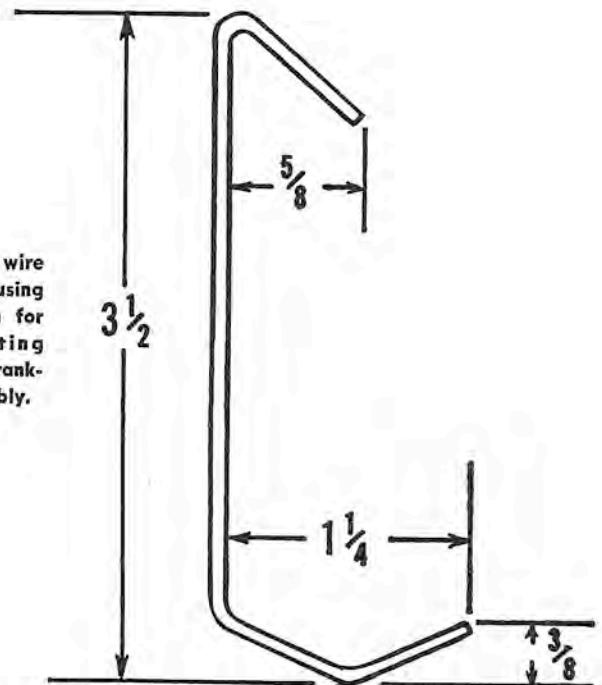

Fig. J105 — Four wire clips can be made using the pattern shown for holding the connecting rods away from crankshaft during assembly.
The crankshaft upper main bearing is a double roller bearing (16—Fig. J99 or J100), contained in the upper crankcase head (13). The center main bearing is a split cage needle bearing. The 20 bearing needles (10—Fig. J99) are loose in models before 1961, and are contained in the cage in later models. The two-piece outer race (8) is held together with retaining ring (11) and is positioned in cylinder block by a dowel. To remove the ball-type lower main bearing (22) after crankshaft and bearings assembly is removed from cylinder block, remove the four screws (32) which attach thrust plate (21) to lower crankcase head (23) and pull head from bearing and crankshaft. Use a suitable press or puller to remove bearing and thrust plate from crankshaft. When re-assembling, the protruding lug on thrust plate (21) must be installed in the cavity provided in lower head (23). Thrust plate screws (32) must remain loose when installing the crankshaft assembly to prevent damage to gasket (20). When installing the crankshaft and bearings assembly, pull all pistons to bottom of cylinders and temporarily secure rods to outer flange of cylinder block. Wire clips can be constructed using the dimensions shown in Fig. J105 to hold the connecting rods away from crankshaft.